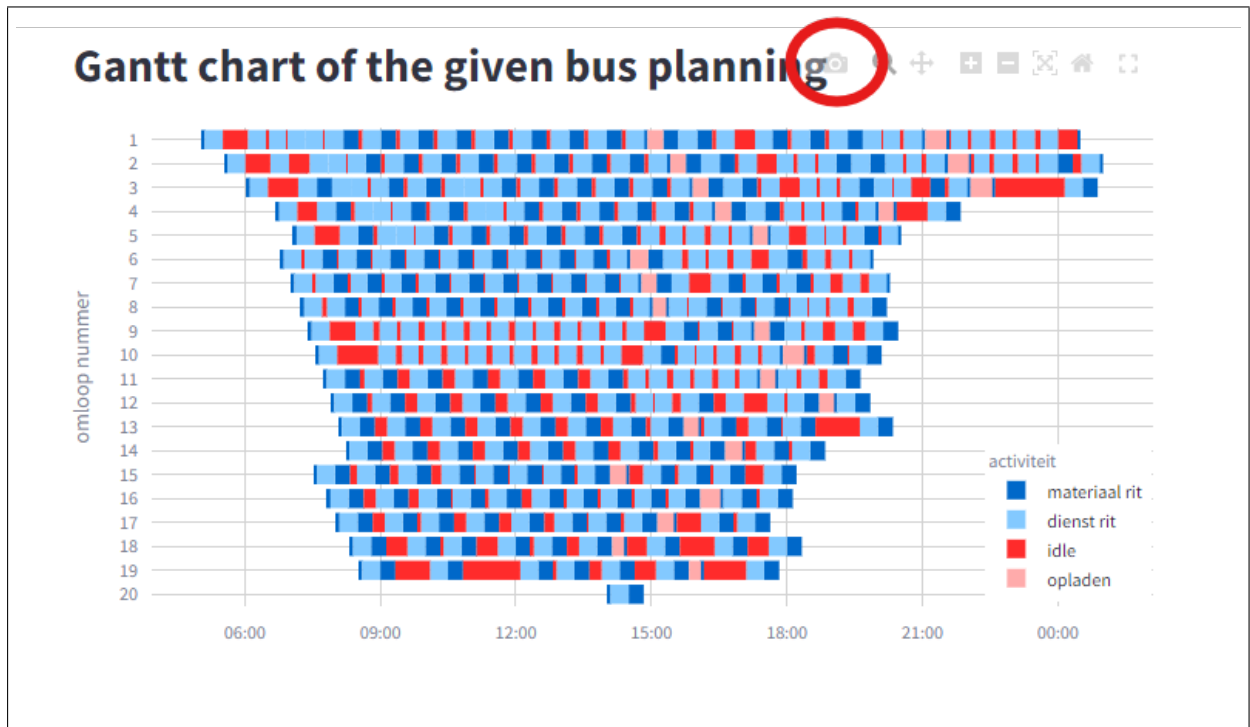

Figure 7: An example of an gantt chart with the download button highlighted.
- **Gantt chart:** When hovering over the gantt chart with your mouse, more icons appear on the top of the chart. Press the camera icon and the gantt chart will automatically download as a .png file (see figure 7).